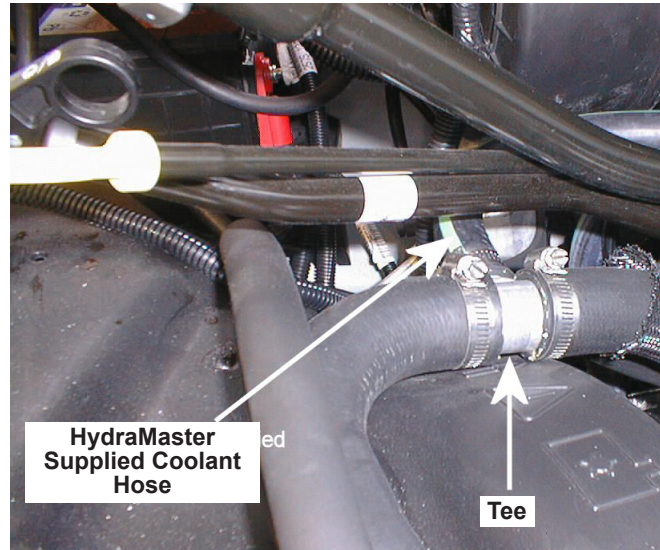

Figure 20. Cut Hose in Half and Install Tee
- c. Cut the hose in half and install the tee. The tee needs to be pointing up and slightly towards the front of the van (see Figure 20).